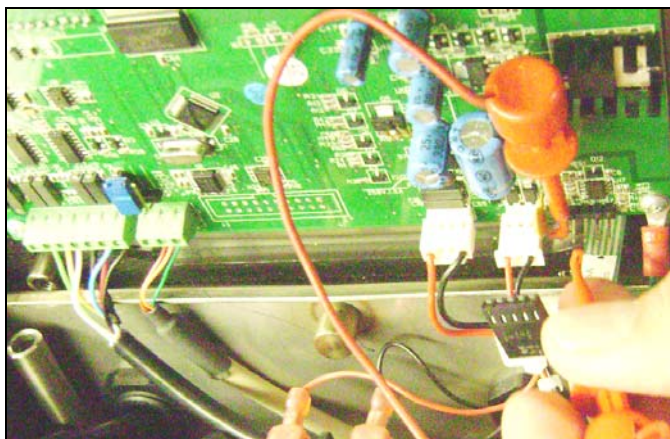

Figure 3-13. Membrane Switch connector removed, Ohmmeter probe is attached to Membrane Switch pin on Main PCB.
1. Open the Housing and disconnect the plastic ribbon cable that connects the Membrane Switch to the PCB Connector J8. (See Figures 3-13 and 3-14.)